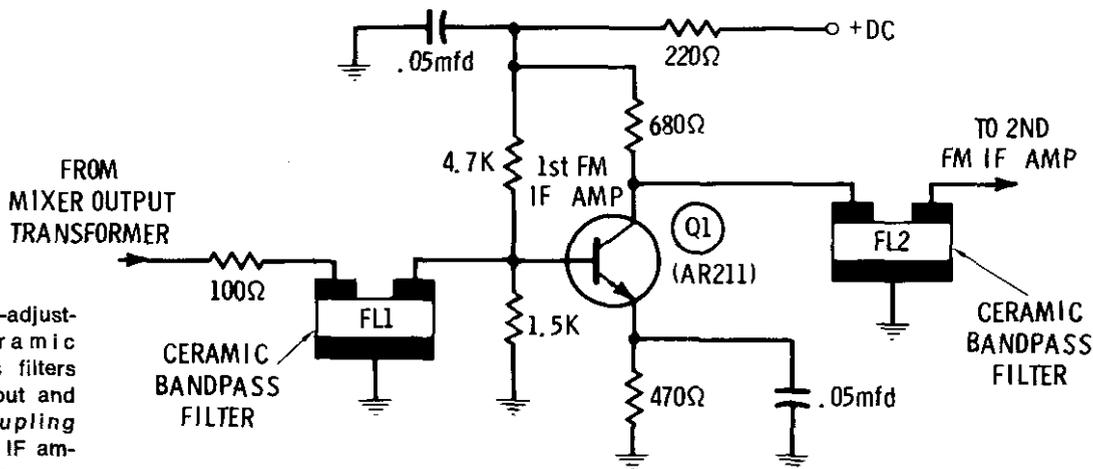
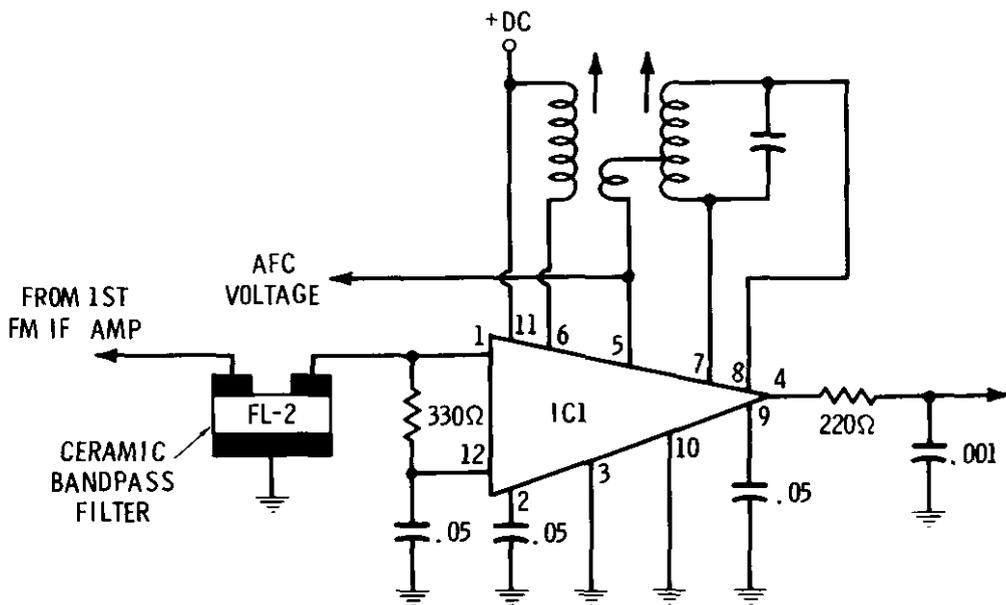

Fig. 7 Non-adjustable ceramic bandpass filters provide input and output coupling for 1st FM IF amplifier stage.
Fig. 8 Integrated circuit shown here functions as the FM limiter, 2nd FM IF Amplifier and discriminator.
At first glance, the FM IF amplifier, shown in Fig. 7 and Fig. 8, appears a little short of parts. This section of the receiver gets all of the necessary gain from one transistor and a special-purpose integrated circuit (IC). Input and output coupling to the transistor stage, in Fig. 5, is through ceramic bandpass filters rather than through conventional IF transformers. These filters are not adjustable. For this reason, Philco preselects filter units according to their bandpass characteristics. The criteria for selection is such that there are five different basic filter groups differentiated from each other by a color-coding system. If it becomes necessary to replace one of these filters, it is important that you order one with the same color coding as the original. State the Philco part number, followed by the color in parenthesis.
Fig. 7 An open B-boost capacitor eliminated the high voltage and, consequently, the raster. Scope waveforms and voltage readings should be used to isolate this trouble. **A)** Yoke voltage waveform showed excessive ripple (extra pulse). **B)** The small sine waves which are apparently caused by damper action were missing from the horizontal-output tube current waveform. **C)** The waveform of yoke current cannot be analyzed easily because it is so distorted in comparison to the normal sawtooth. **D)** The B-boost waveform is also difficult to analyze. However, the 1300 volts PP is an indication of a defect in the associated circuitry.
Fig. 8 Low screen voltage of the horizontal-output tube produces a loss of width at both the right and the left sides. **A)** Crosshatch pattern here shows loss of width without much change in linearity at both sides of the picture. **B)** Two shorted turns around the core of the high-voltage transformer narrowed the sweep by nearly the same amount as a reduc-